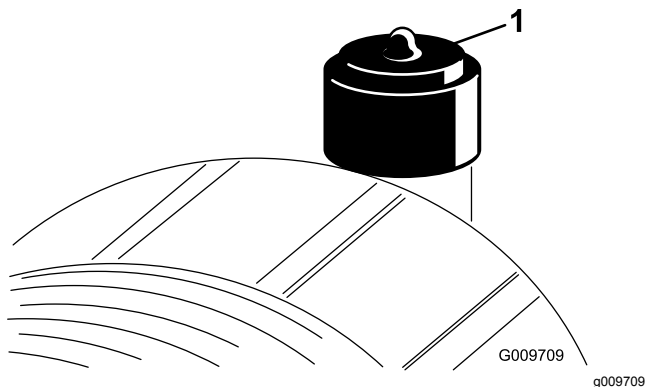

Figure 55
Service the air-cleaner filter only when the service indicator requires it (Figure 55). Changing the air filter before it is necessary only increases the chance of dirt entering the engine when you remove the filter.
2. Reset the indicator (Figure 55) if it shows red.